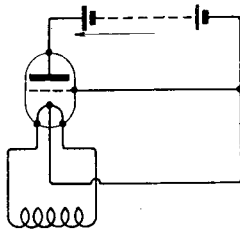

Fig. 7. A circuit due to R. Barthelemy.
R. Barthelemy patented in the year 1919 the circuit shown in Fig. 7, with a view to overcoming the above-mentioned difficulty. The diagram shows that the grid is connected to the middle point of the filament in such a way that when one half of the filament is positive in respect of the common point of connection between the plate and filament, the other half would be negative.